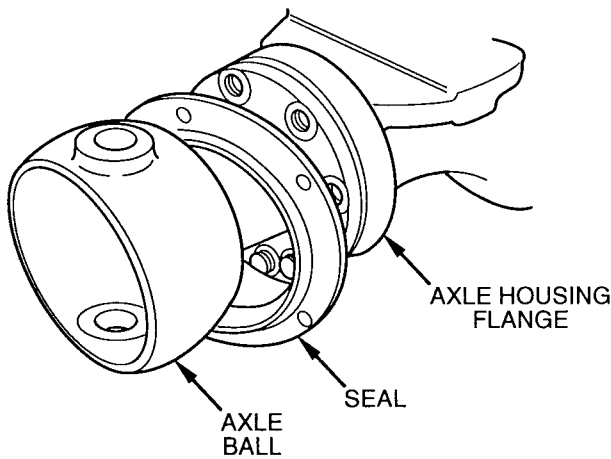

Figure 17 Installing Axle Ball Seal
1. Install axle ball seal (7) and seal plate (6) over axle mounting flange. (See Figure 17).
2. Press axle shaft oil seal (1) into axle ball (2) with seal lip facing out.
3. Apply RTV sealant to axle ball (2) and install ball onto studs in axle housing and secure with nuts, capscrews, and washers. Leave out the top two capscrews until after socket turn angle stops are set. Torque all nuts and capscrews to 320 lb. ft. (434 N•m) wet.